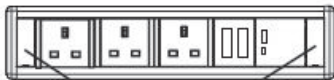

Fig. 2
- Remove the cover plates from the front face of the product using a small flat screwdriver (see Fig. 2)